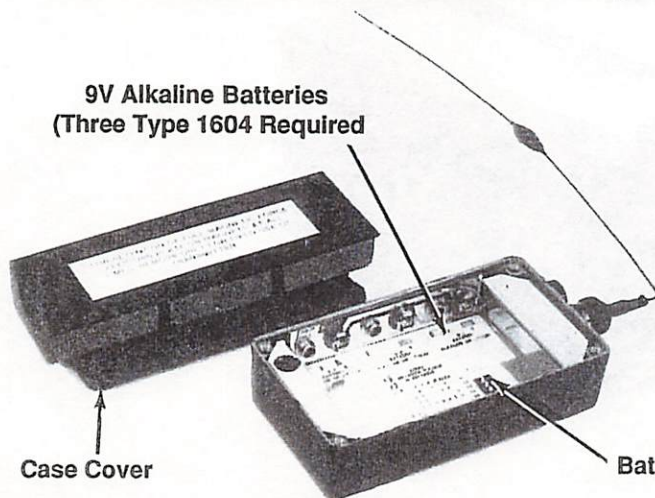

Figure 11. TX-602D Battery Installation.
1. Remove the four Retaining Screws located at each corner of the transmitter Case and lift the Case Cover free (see Figure 11 on the following page).